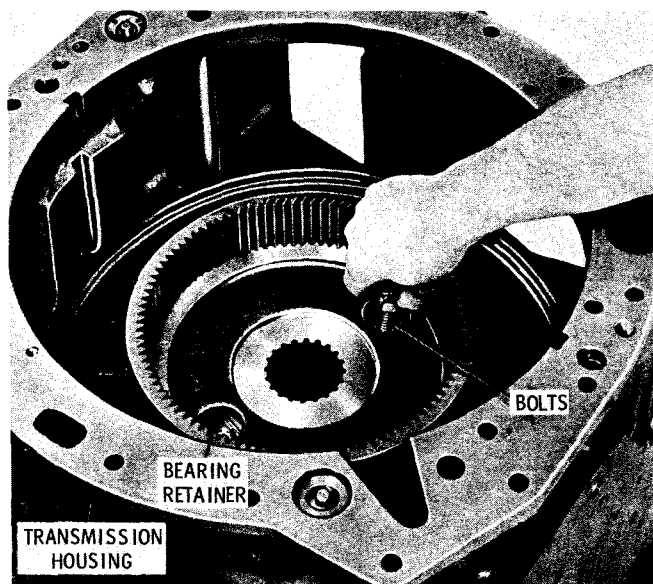

Fig. 7-2. Installing splitter ring gear and bearing retainer bolts
(2) Install six self-locking bolts and toothed lockwashers which secure hub bearing retainer to transmission housing (fig. 7-2). Tighten the bolts to 96 to 115 pound feet torque.